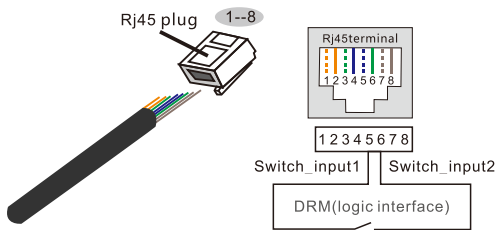

Figure 5.29 Strip the insulation layer and connect to RJ45 plug
2.Use the network wire stripper to strip the insulation layer of the communication cable. According to the standard line sequence of figure 5.29 connect the wire to the plug of RJ45, and then use a network cable crimping tool to make it tight.